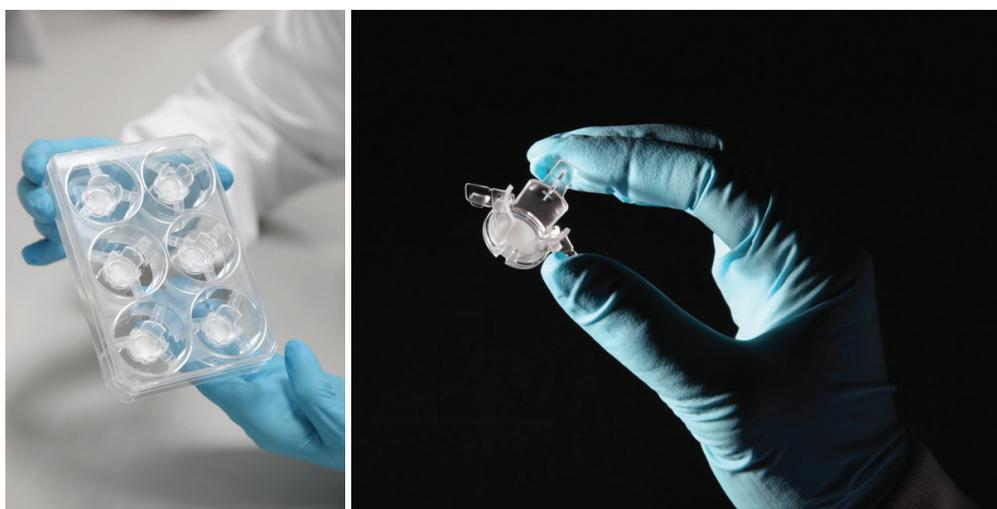

FIGURE 1. Alvetex Scaffold in 12-well insert format used in a 6-well plate.
1. 12-well Alvetex Scaffold inserts (AVP005) were used in 6-well plates (Figure 1). The inserts were washed twice with media. Please refer to website protocols for preparation of Alvetex Scaffold for cell culture (reinnervate.com/alvetex/alvetex-documentation/protocols/).